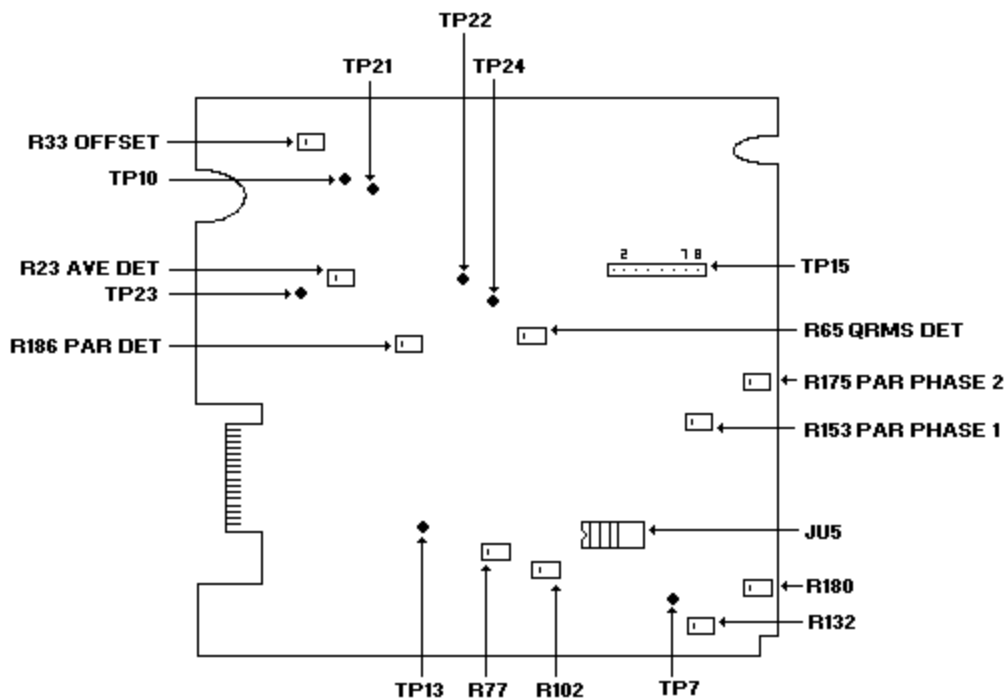

Figure 1. Receiver board A3 (A13) - adjustment locations.
- (1) Press calibrator **RESET** key and disconnect from TI.
- (2) Connect left **TRMT/RCV 310** to right **RCV/TRMT 310** using a T-type connector.
- (3) Connect multimeter **Input HI** and **LO** to T-type connector.
- (4) Press **IMPULSE NOISE DISPLAY F2 1004** key. Right display will indicate 1004 Hz.
- (5) Adjust **OUTPUT LEVEL** control until multimeter indicates about 1.0 V ac. Record exact value.
- (6) Connect multimeter **Input HI** to TP13 (fig. 1) and **LO** to ground. Adjust R77 (fig. 1) until multimeter indicates value recorded in (5) above (R).
- (7) Disconnect left **TRMT/RCV 310** from right **RCV/TRMT 310**.
- (8) Press **MEASUREMENT MEAS** key to select **NOISE** and **DISPLAY** key to select **TRMT**. Connect jumpers from TP10 to TP21 and from TP22 to TP23 (fig. 1).
- (9) Connect multimeter **Input HI** to TP24 (fig. 1). If multimeter does not indicate 0 V dc ± 0.3 mV dc, adjust R33 OFFSET (fig. 1) for 0 V dc. Disconnect jumpers and multimeter (R).
- (10) Set calibrator for a .77 V, 1.004 kHz output. Do not connect to TI at this time.
- (11) Press **DISPLAY** key to select **RCV** and **MEASUREMENT MEAS** key to select **LEVEL FREQUENCY**.
- (12) Press **NOR** and **SET UP RCV 600 W** pushbuttons.
(13) Release **SET UP RCV BRG**, **RCV HOLD**, **TRMT DIAL**, and **TRMT HOLD** pushbuttons (out).
(14) Connect calibrator (preset in (10) above) **OUTPUT HI** and **LO** to TI right **RCV/TRMT 310**. Adjust R23 AVE DET (fig. 1) for > 0.0 dBm indication on TI left display, then reduce until indication just changes to -0.1 dBm (R).
(15) Set calibrator amplitude to .7795 V. TI left display will indicate +0.1 dBm, if not, repeat (14) above at .77 V.
(16) Press **MEASUREMENT MEAS** key to select **NOISE**.
(17) Press **FILTER FILTER** key to select **15 kHz FLAT**.
(18) Set calibrator amplitude to .727 V.
(19) Adjust R65 QRMS DET (fig. 1) until TI left display indicates 90 dBm then reduce level until indication just changes to a stable 89 dBm (R).
(20) Set calibrator amplitude to .826 V. TI left display will indicate 91 dBm, if not repeat (18) and (19) above.
- (2) Connect left **TRMT/RCV 310** to right **RCV/TRMT 310**.
- (3) Press **DISPLAY** key to select **TRMT** and **MEASUREMENT MEAS** key to select **LEVEL FREQUENCY**.
- (4) Press **↶**, **STEP UP**, **STEP DOWN**, and **Ⓜ** keys until TI right display indicates 995 Hz. Adjust **OUTPUT LEVEL** control until left display indicates 0.0 dBm.
- (5) Press **DISPLAY** key to select **RCV**.
- (6) Move shorting bars on JU5 (fig. 1) to right (shorting pins 5 to 12, 6 to 11, 7 to 10, and 8 to 9).
- (7) Connect oscilloscope **CH 1** to pin 1 of JU5 (fig. 1).
- (8) Adjust R102 (fig. 1) for minimum ac signal on oscilloscope (R).
- (9) Press **↶**, **STEP UP**, **STEP DOWN**, and **Ⓜ** keys until TI right display indicates 1010 Hz.
- (10) Connect oscilloscope **CH 1** to pin 4 of JU5 (fig. 1).
- (11) Adjust R132 (fig. 1) for minimum ac signal on oscilloscope (R).